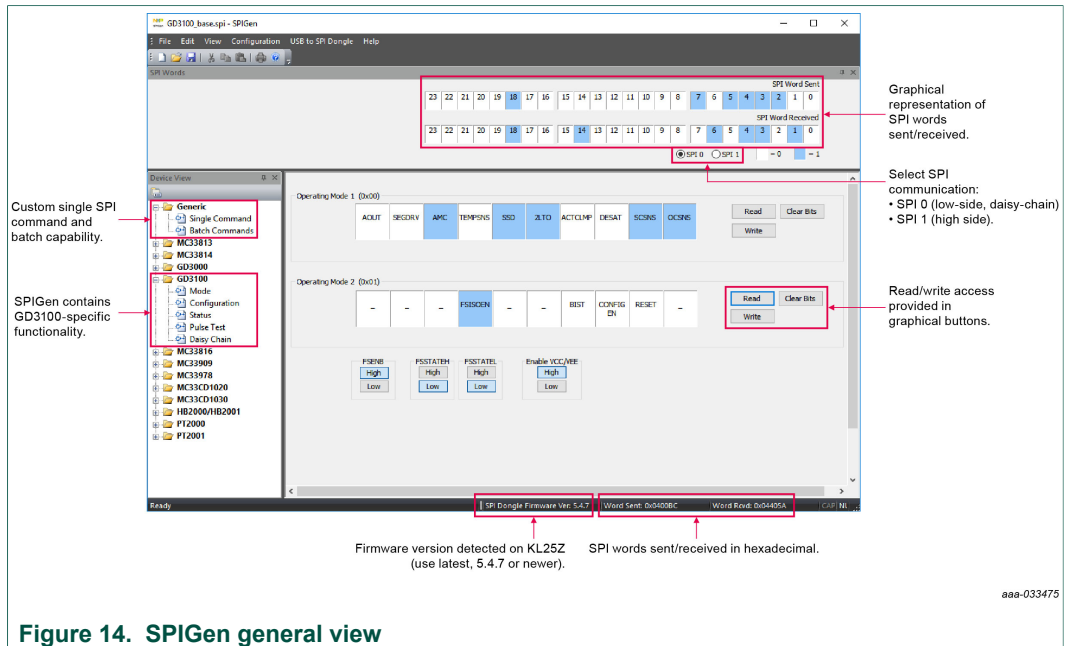

Figure 14. SPIGen general view
- a. Selecting SPI0 communicates with low-side gate drive device and SPI1 communicates with high-side gate drive device (see Figure 14).
A way to quickly check that the microcode is programmed and board is functioning properly, is to plug the KL25Z into the computer, open SPIGen, and verify the software version at the bottom is 5.4.7 software (see Figure 14).
SPI messages can be realized graphically or in hexadecimal format, and the CSB is selectable to address one or both GD3100 present on the board. See Figure 14 for SPIGen graphical user interface for GD3100 internal register read and write access.